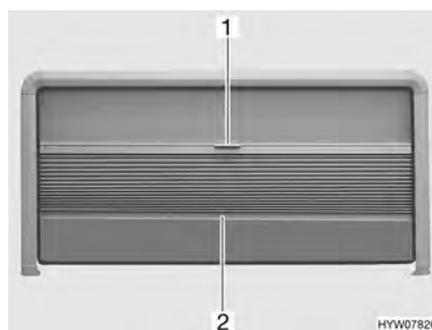

Fig. 69 Hinged window
- Hold the Roman shade in the centre of the bottom rod (Fig. 69,2) and carefully draw it downwards.
- Hold the bottom rod (Fig. 69,2) of the Roman shade in the centre and carefully slide the Roman shade upwards.
- Carefully pull down the insect screen by the handle (Fig. 69,1).
- Slowly push the insect screen on the bottom rod of the Roman shade (Fig. 69,2) all the way up.